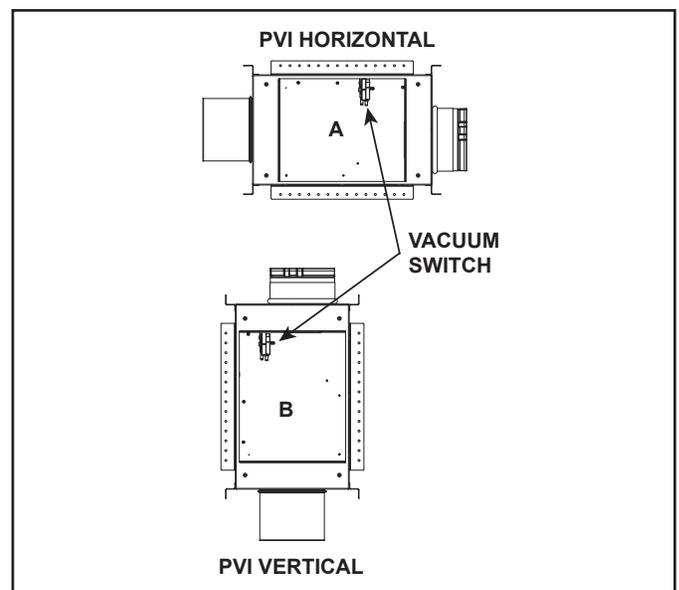
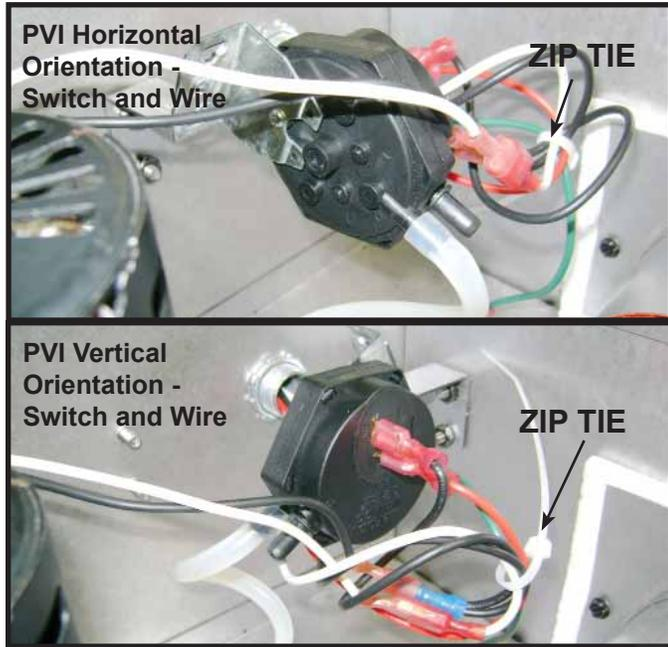

Figure 4.20 Vacuum Switch Location - Horizontal/Vertical Orientation
Figure 4.21 PVI Switch and Wire Orientation-Horizontal/Vertical
- Attach the end of the harness with the loose wires to the PVI-DVP. Use supplied zip ties to contain all loose wiring. See Figure 4.20 and Figure 4.21.
If the PVI is mounted in a vertical position, the vacuum switch needs to be moved. To do this, loosen and remove the two nuts currently using to secure it to the inside wall of the PVI. Move and secure the vacuum switch onto the adjacent wall using the two bolts that are sticking out of the surface. See Figure 4.20 for the location on the vert-
cal plane in regards to horizontal or vertical orientation. The vacuum switch must be installed on a vertical plane. If the PVI is orientated horizontally in the vent run, install the vacuum switch in location "A" noted in Figure 4.20. If the PVI is orientated vertically in the vent run, install the vacuum switch in location "B" in Figure 4.20. Follow instructions on label attached inside the PVI. Remove the label as directed. See Figure 4.21 for the switch and wire orientation.